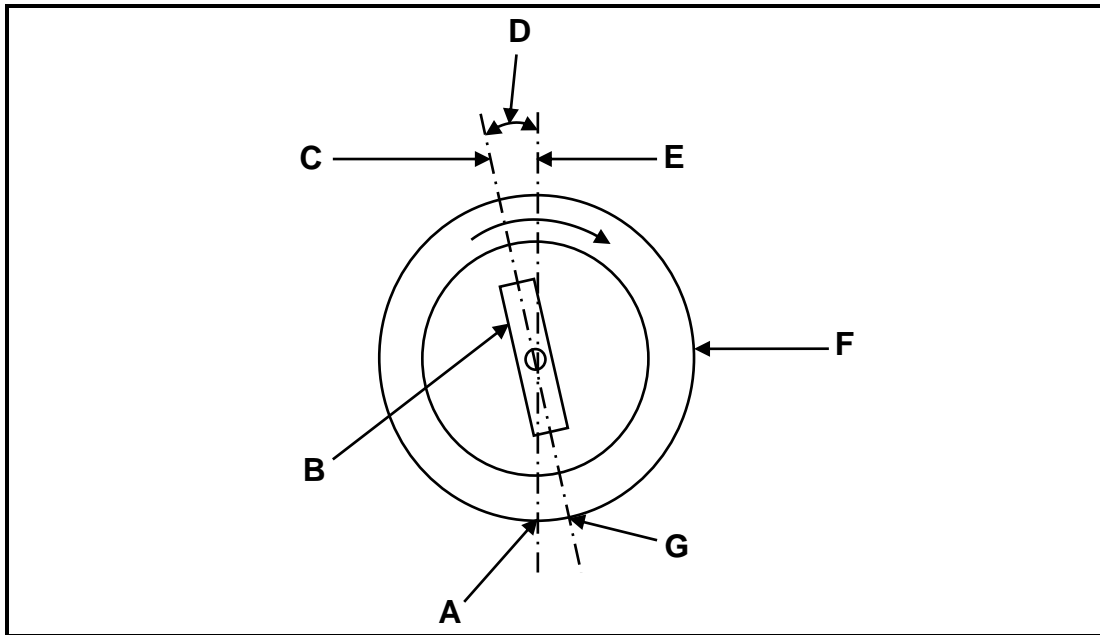

FIGURE 10.3
- 10.3 FIGURE 10.3 below shows a wheel alignment angle. Answer the questions that follow.
- 10.3.1 Identify the wheel alignment angle in FIGURE 10.3. (2)
- 10.3.2 Label parts **A–G** in FIGURE 10.3. (7)